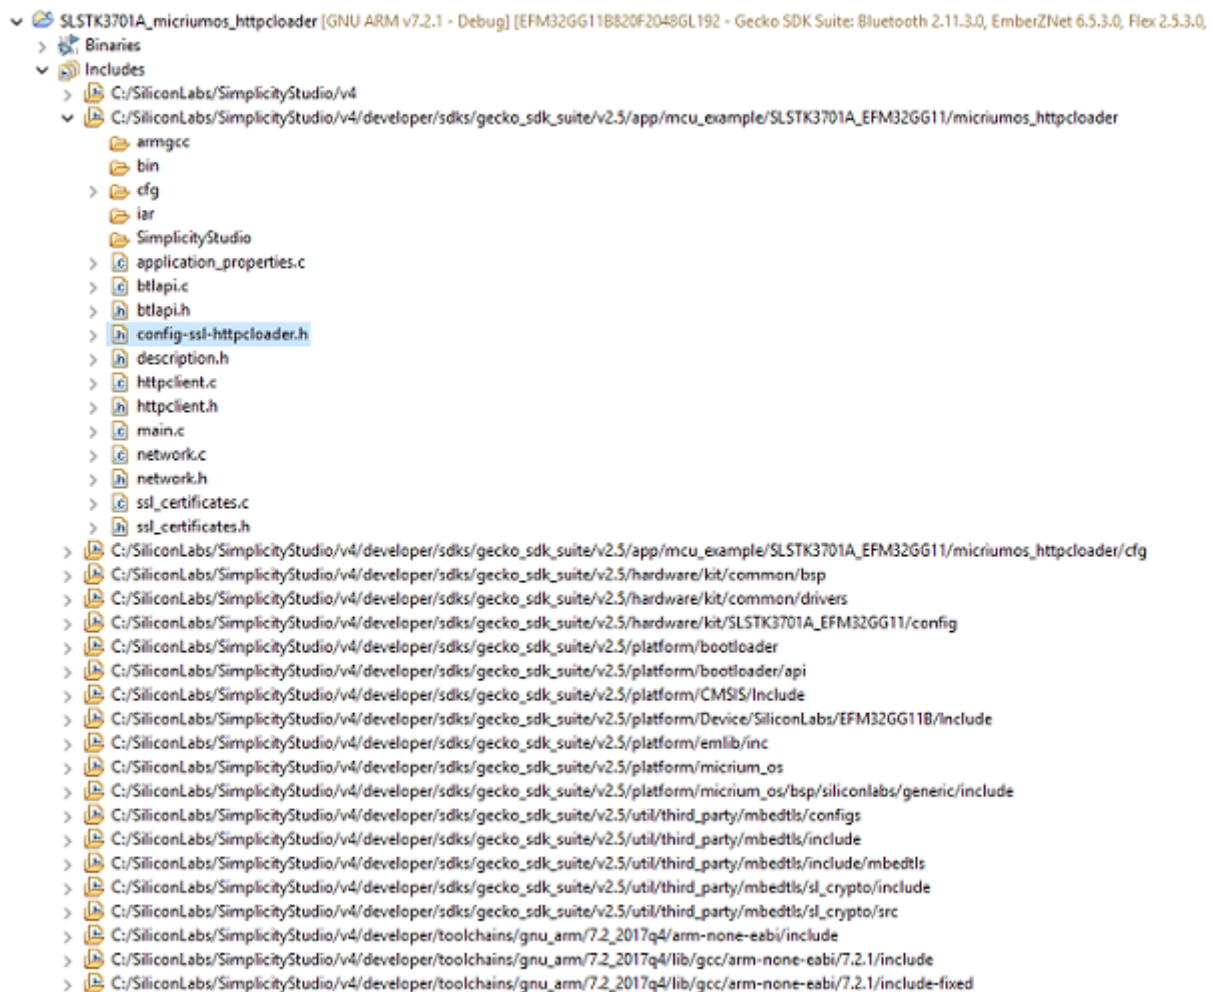

Figure 5.7. `config-ssl-httploader.h` file location
3. Open `config-ssl-httploader.h` from the `SLSTK3701A_micriumos_httploader` project in Simplicity Studio. The header file can be found under the project include files as shown in Figure 5.7 `config-ssl-httploader.h` file location on page 20. The default location for this file is `C:/SiliconLabs/SimplicityStudio/v4/developer/sdks/gecko_sdk_suite/vX.Y/app/mcu_example/SLSTK3701A_EFM32GG11/micriumos_httploader` if Studio is installed in the default location, where `vX.Y` is the version number of the SDK.